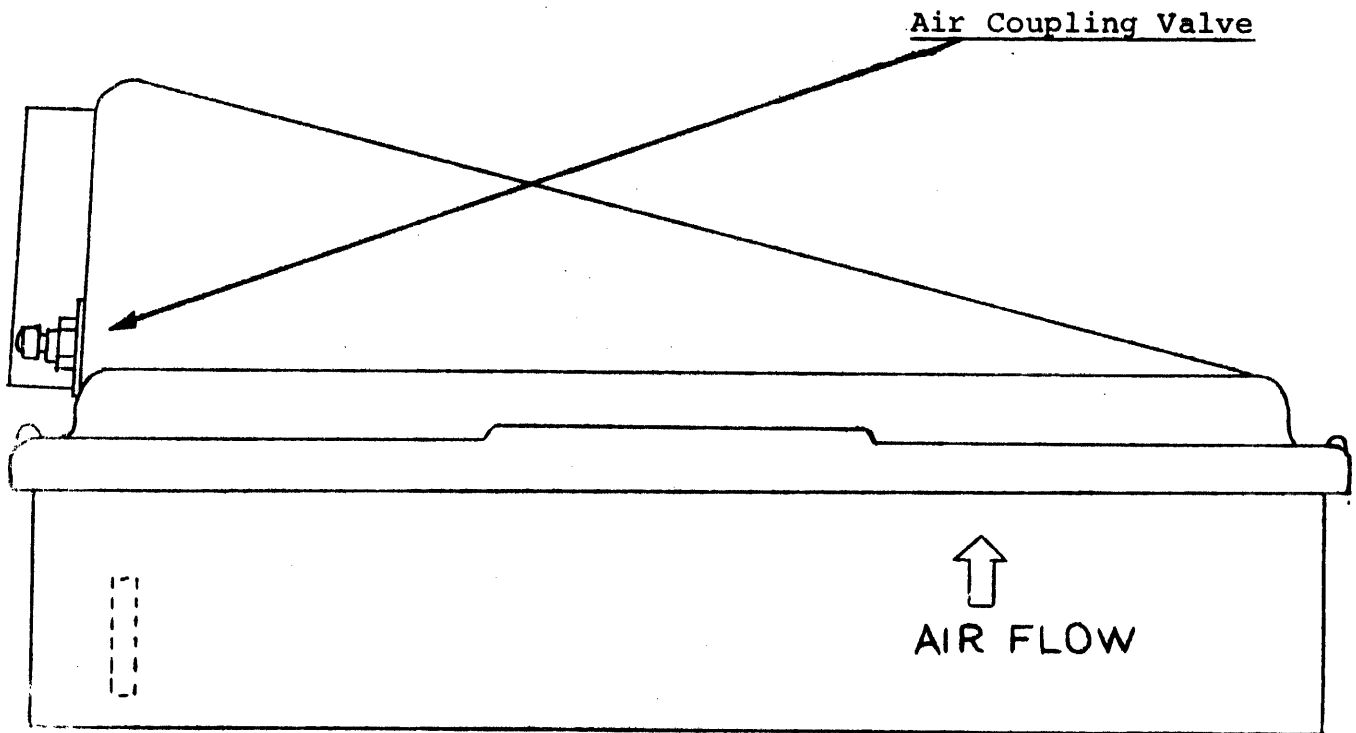

Figure 2. Model 114 Filter Assembly - Top View.
- b. Remove the front panel and check the output of the filter assembly with the portable air pressure gauge as indicated in Figure 2 below.